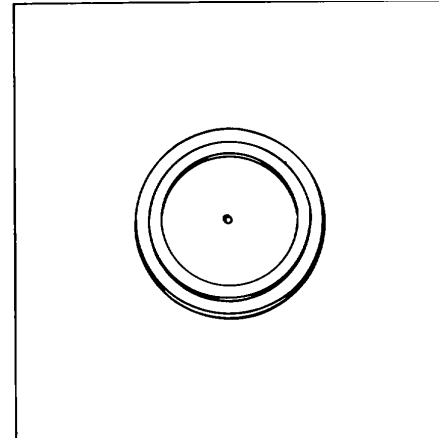

Figure 212.
9. Check clearance between bronze piston shoe and steel piston body (55). With a push-pull motion check for free play between shoe and body. If any free play can be felt, the piston must be replaced.
10. Inspect the bronze piston shoe running surface. During normal service, a dulling of the running surface is to be expected. If large scratches are present, make several short passes over 500 grit emery paper on a lap table See Fig. 212.